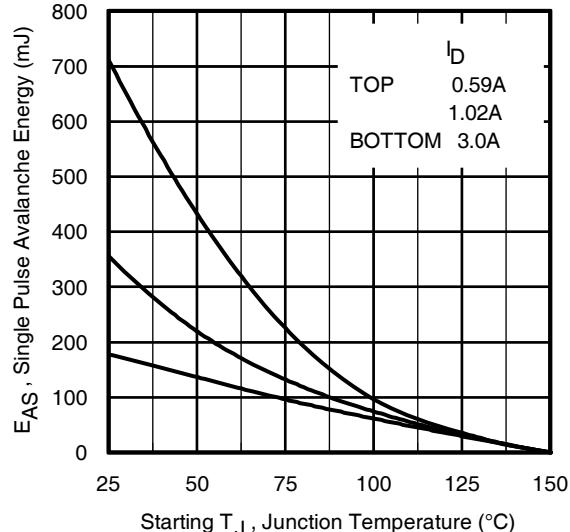

Fig 13. Maximum Avalanche Energy vs. Drain Current
- ② Starting $T_J = 25^\circ\text{C}$, $L = 40\text{mH}$, $R_G = 25\Omega$, $I_{\text{AS}} = 3.0\text{A}$. (See Figure 13).
- ③ $I_{\text{SD}} = 6.0\text{A}$, $dI/dt \leq 416\text{A}/\mu\text{s}$, $V_{\text{DD}}V_{(\text{BR})\text{DSS}}, T_J \leq 150^\circ\text{C}$.
- ④ Pulse width $\leq 300\mu\text{s}$; duty cycle $\leq 2\%$.
- ⑤ $C_{\text{oss eff.}}$ is a fixed capacitance that gives the same charging time as C_{oss} while V_{DS} is rising from 0 to 80% V_{DSS} . $C_{\text{oss eff. (ER)}}$ is a fixed capacitance that stores the same energy as C_{oss} while V_{DS} is rising from 0 to 80% V_{DSS} .
- ⑥ R_θ is measured at T_J approximately 90°C
- ⑦ When mounted on 1" square PCB (FR-4 or G-10 Material). For recommended footprint and soldering technique refer to application note # AN- 994 techniques refer to application note #AN-994.